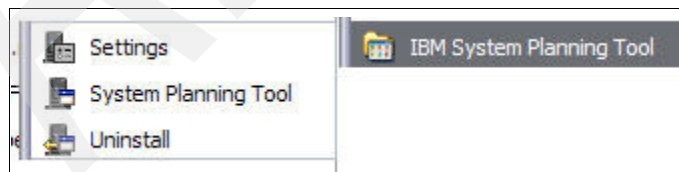

Figure B-18 Starting SPT
1. Start SPT. Open the windows **Start** → **Programs** menu and then **IBM System Planning Tool** and **System Planning Tool**, as shown in Figure B-18.